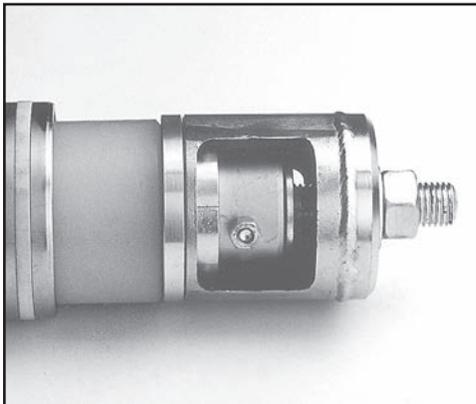

**FIG. 66: SECURING BOLT**
16. Screw bolt into the bore. Secure the bolt with a nut to hold in place (see Fig. 66).